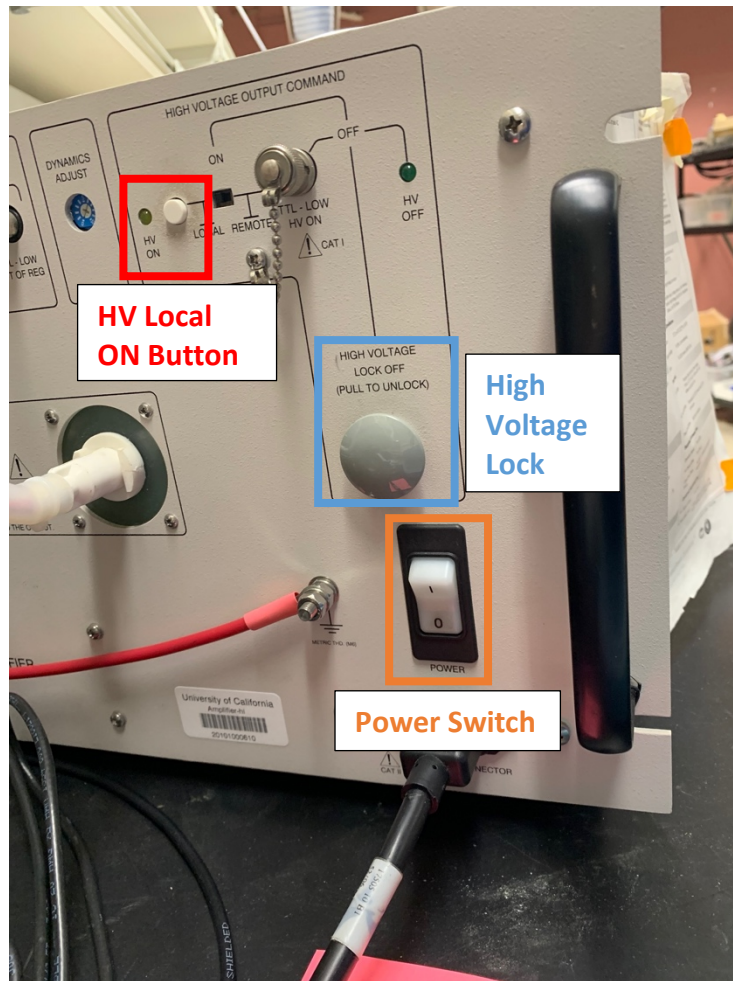

Figure 2: Amplifier Power Switches
2. Turn on Amplifier for Frequency Generator (See Figure 2 for Amplifier startup):
2. Turn off Amplifier (see Figure 2):